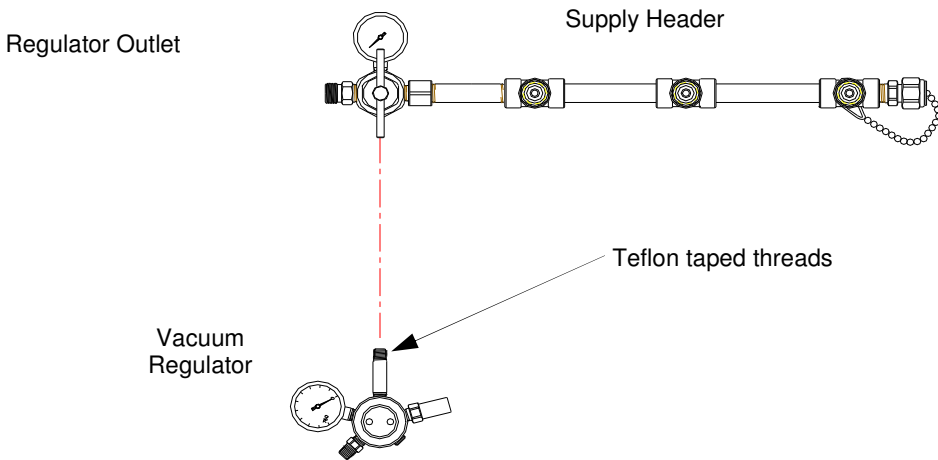

FIGURE 2
1. Apply Teflon tape to the 1/4 NPT threads on the vacuum regulator. (Figure 2)
2. Assemble the vacuum regulator to the header assembly as shown in figure 2.